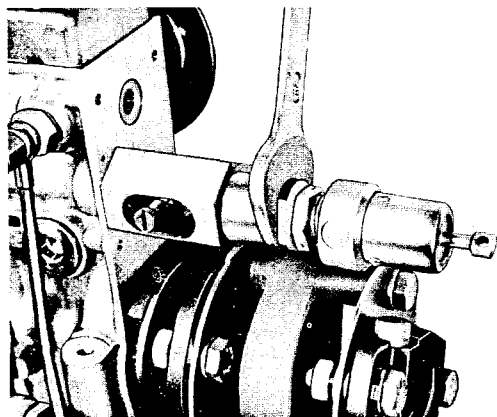

Fig.4
4. Fit the cold start device and the copper gasket. The tightening torque is approx. 80 Nm or 8 kgm. However, tests have shown that the alteration of the measuring value on account of moderate variations in the tightening torque is so fractional that it will not give a readable deflection on the dial indicator, fig. 4.